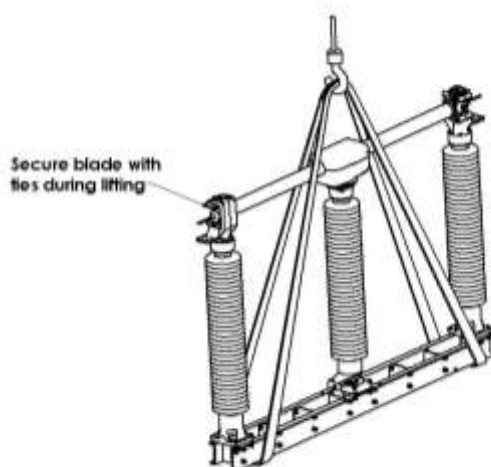
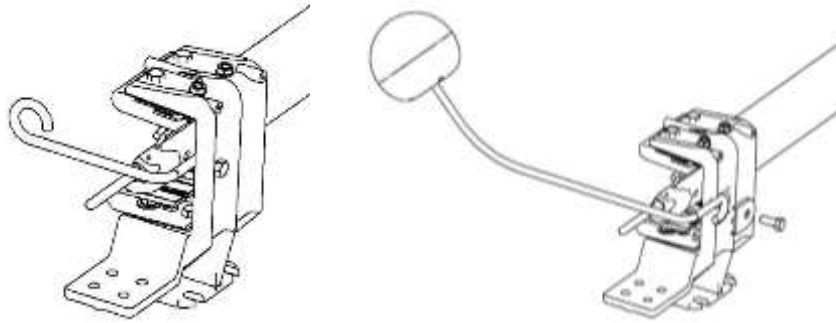

Figure 12: Sling Attachment
Figure 13: Arcing Horn Attachment
11. Install the arcing horn on each jaw as shown in Figure 13. The horns should touch lightly throughout their stroke. ***Arcing horns rubbing together with excessive pressure can cause the blade to rotate outside the contacts, causing switch malfunction.*** Bend the stationary horn as required to achieve enough pressure for contact, but not so much as to cause binding. (See Figures 12 and 13.)